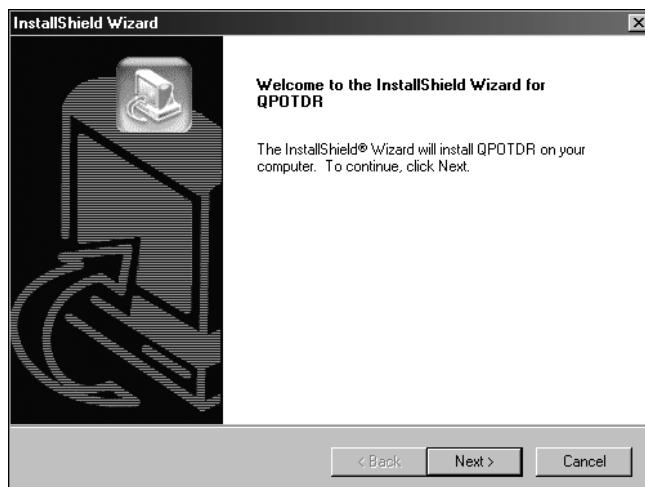

Figure 2-1: Welcome to the InstallShield Wizard dialog
4. The **QPOTDR Setup** window appears. Follow the instructions displayed in the InstallShield® Wizard (see Figure 2-1). Select **Next** to continue the installation.